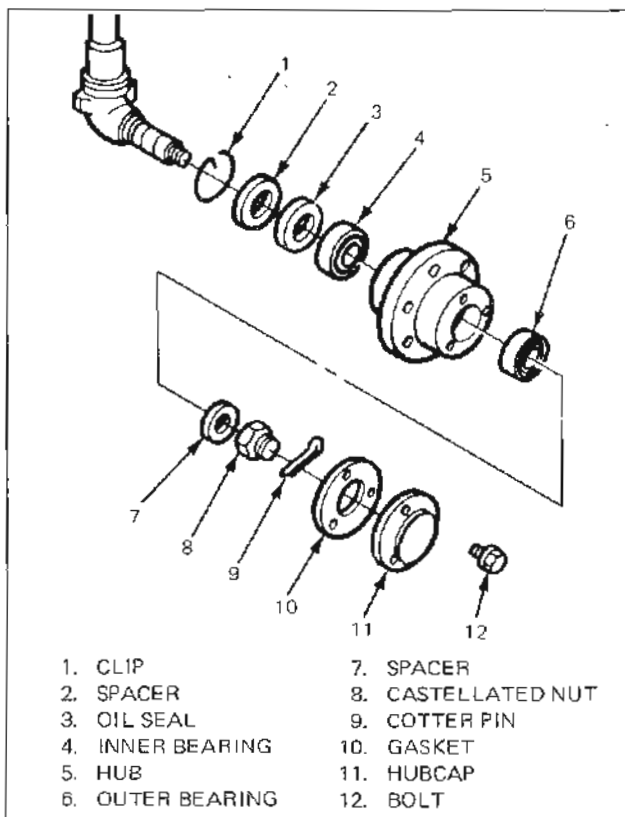

Figure 65 — Servicing Front Wheel Bearing—Two-Wheel Drive (SD4300 and SD5000T)
2. Jack up one of the front wheels and remove the hubcap, the cotter pin, and the nut, Figure 65. Remove the spacer, outer bearing, and then the complete wheel assembly.